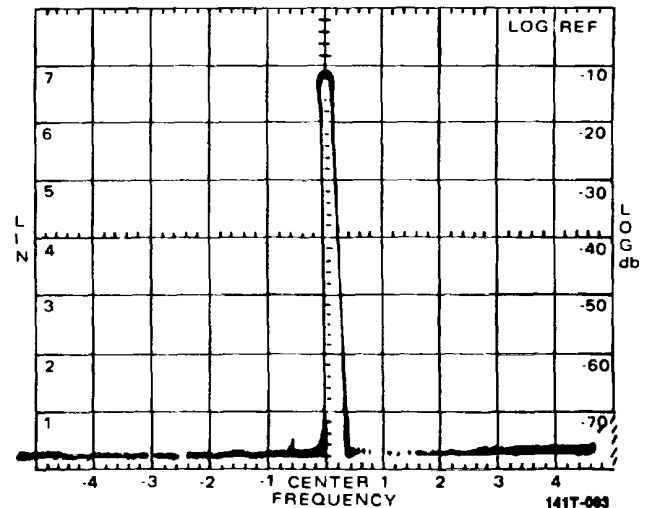

Figure 5-1A. Spectrum Analyzer Intensity Limit Adjust
- i Turn A2R65 slowly cw until crest of trace is bright with rest of trace barely visible as shown in figure 5-1A